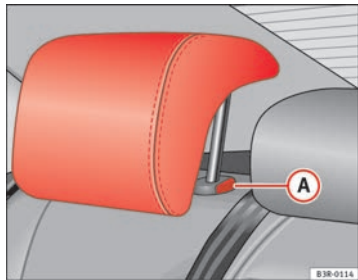

Fig. 112 Outer rear seats:
- Press button **A** ⇒ fig. 112 and lower the head restraint.
- Press button **A** ⇒ fig. 112 and pull out the head restraint.